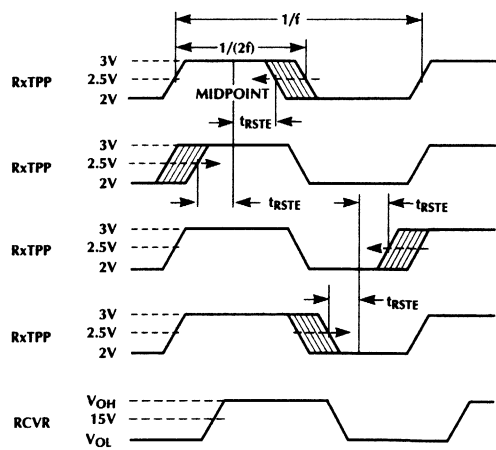

Figure 5. Receiver Static Timing Error Test.
- Note 11:** The ML6682 is phase-locked to the RxTPP waveform with RxTPN biased to 2.5V (see Figure 5). Monitor RxD to observe correct data being latched. For one pulse, shorten the positive pulse at RxTPP by moving the rising edge, and check to see if the short pulse was latched. Continue to shorten the pulse in this manner until incorrect data appears at RxCLK. The time between the rising edge and the unshortened positive pulse midpoint is  $t_{RSTF}$ . Repeat this procedure for the other 3 cases shown in Figure 5.